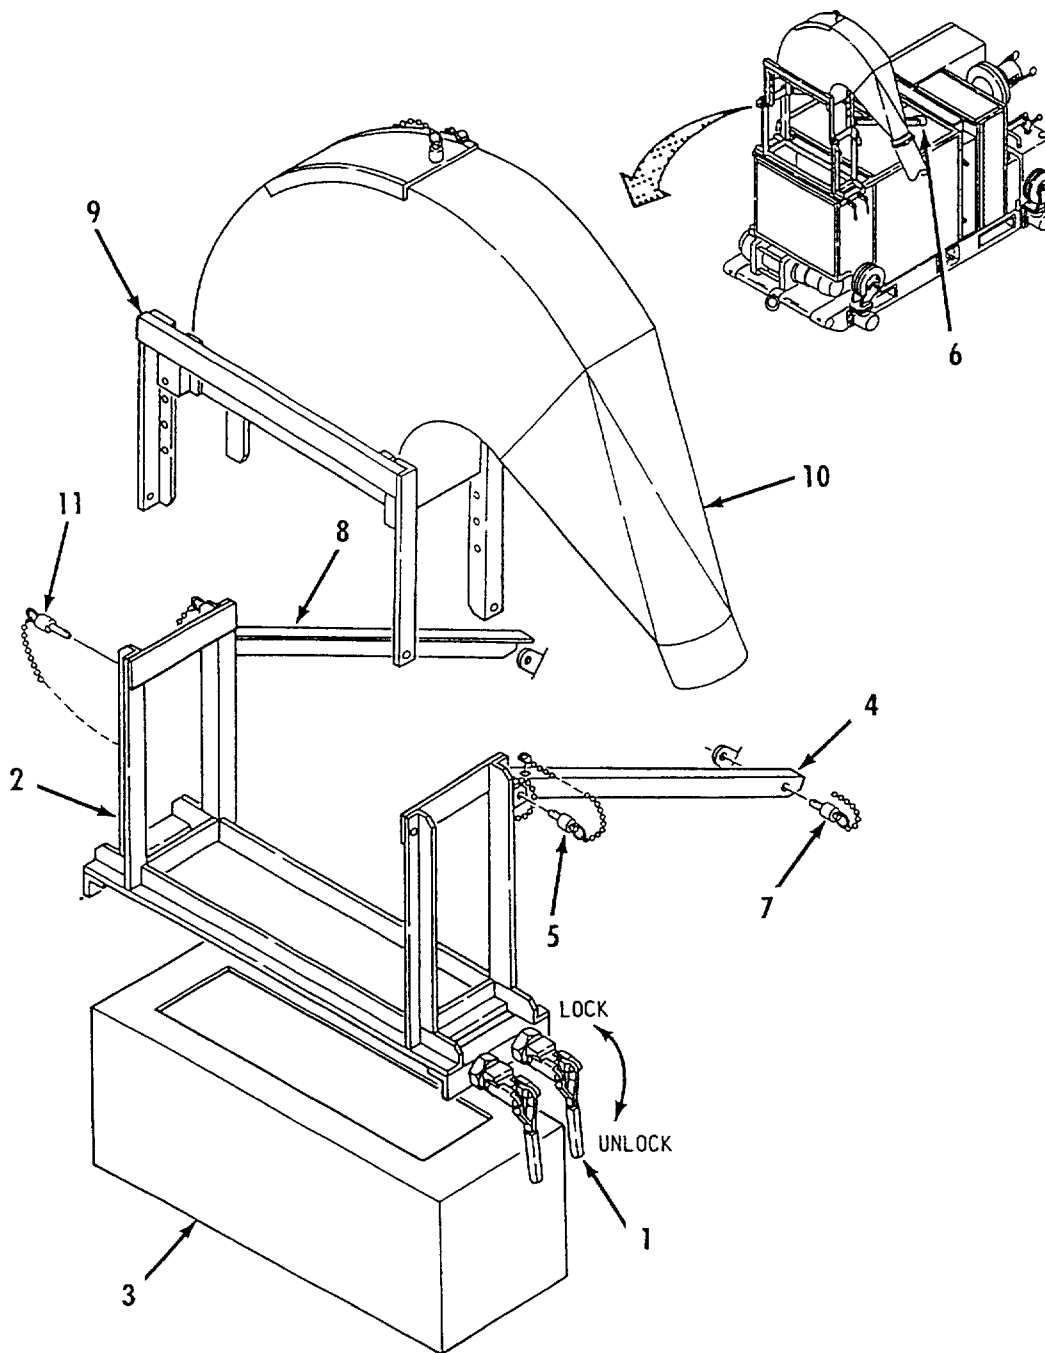

Figure 2-12. Deflector Installation.
- e. Install Deflector. Refer to figure 2-12.